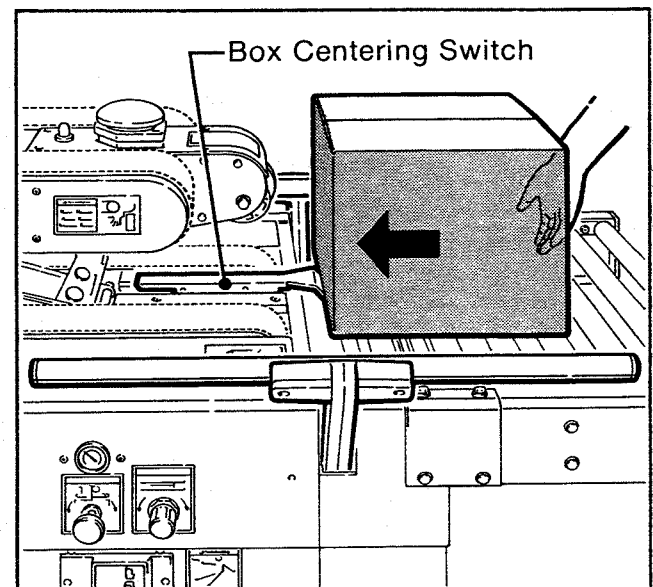

Figure 2-18 - Box Centering Switch
The air supply powers movement of the centering guides and upper drive assembly to automatically adjust the case sealer to the box size being sealed as follows (refer to figures 2-18 and 2-19).
1. A box centering switch in the center of the infeed roller conveyor actuates movement of the centering guides. When the operator pushes a box onto the infeed conveyor, as shown in figure 2-18, the lever is depressed causing the air cylinder powered centering guides to move inward, thereby centering the box.